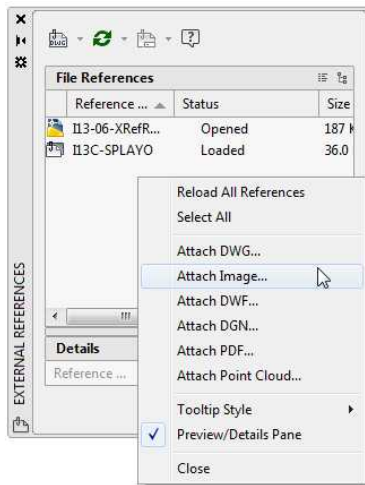

FIGURE 13.28: Attaching an image from the External References palette
4. Right-click a blank area in the File References area below the existing filenames, and choose Attach Image from the context menu shown in Figure 13.28 to open the Select Image File dialog box.